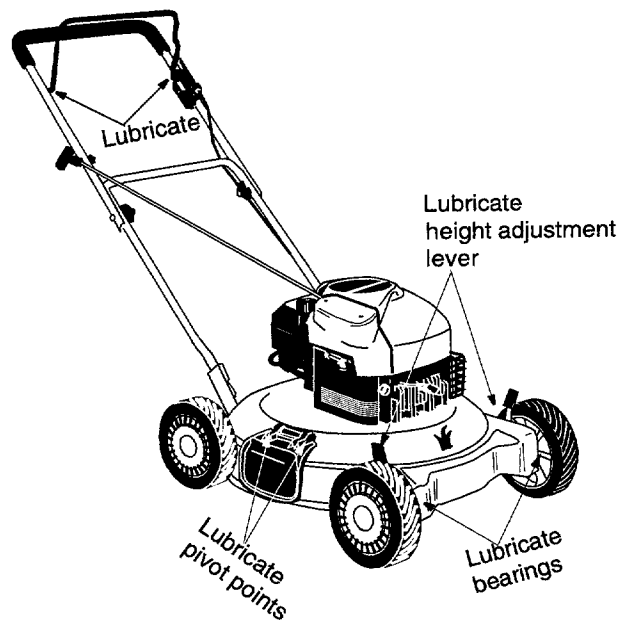

Figure 11
**Blade Control:** Lubricate the pivot points on the blade control handle and the brake cable at least once a season with light oil. See Figure 11. The blade control must operate freely in both directions. Also lubricate the pivot points on the mulch baffle and the height adjustment lever.